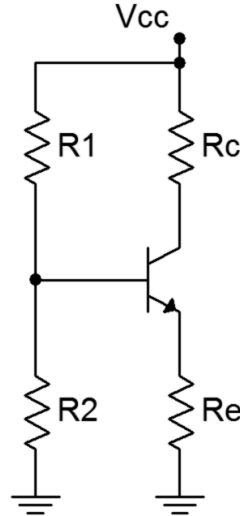

Figure 1
1. Consider the circuit of Figure 1 using $V_{cc} = 10$ volts, $R_1 = 10$ k Ω , $R_2 = 3.3$ k Ω , $R_e = 4.7$ k Ω and $R_c = 5.6$ k Ω . Using the approximation of a lightly loaded “stiff” voltage divider, determine the ideal end points of the DC load line and the Q point, and record these in Table 1.
3. Build the circuit of Figure 1 using $V_{cc} = 10$ volts, $R_1 = 10$ k Ω , $R_2 = 3.3$ k Ω , $R_e = 4.7$ k Ω and $R_c = 5.6$ k Ω . Measure the base, emitter and collector voltages and record them in the first row of Table 2 (Experimental). Compute the deviations between theoretical and experimental and record these in the first row of Table 2 (% Deviation).
- Build the circuit of Figure 1 in a simulator. Run a DC simulation and record the resulting transistor voltages in Table 6.